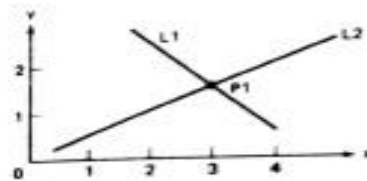

FIGURE A8.15
1. By the x, y, and z coordinates. See Figure A8.15.
2. By the intersection of two lines. See Figure A8.15.